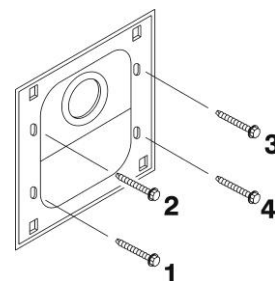

Figure 19. Screw the self-tapping screws through holes in rear panel of SP2500LP speaker box
- Hold the rear panel against the surface, in the same position as before, and screw the four enclosed self-tapping screws through the screw holes on the panel into the speaker post or menu board as shown in Figure 19.